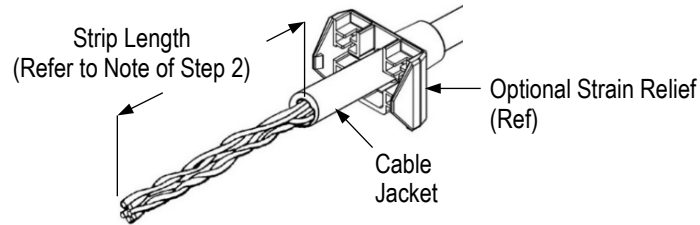

Figure 2
1. If using an optional strain relief, slide it over the cable jacket. Refer to Figure 2.